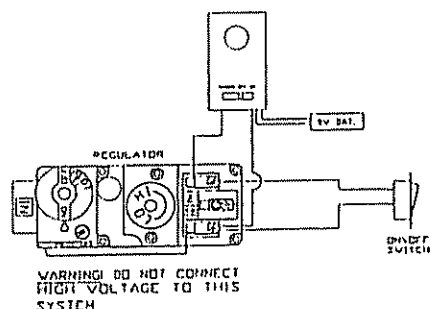

Figure 9
H) WALL SWITCH, THERMOSTAT, OR REMOTE INSTALLATION (opt.) See fig. 9.
An 1/8 inch N.P.T plugged tap is located on the right side of the regulator, (see **Figure 9**) immediately upstream of the gas supply connection to the appliance. This is used for test gauge connection.